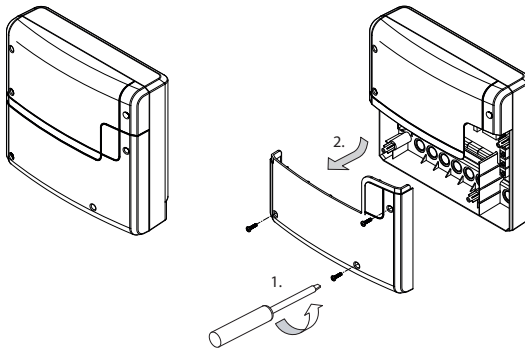

Fig. 1
1. Remove the lower cover from the relay box. Unscrew the 3 fixation screws, then slightly pull the lower housing cover down and take it off. See Fig. 1 for details.